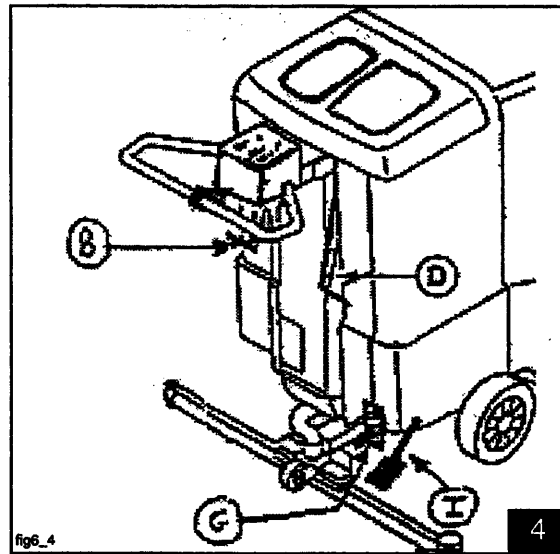

fig6_4
Before removing the brushes, switch off the machine, check the head has lifted all the way up and the brushes have stopped; then press the emergency button and disconnect the battery connector **A** (fig.6).
- if the diaphragm sack is present in the tank remove the pump **A** (§7.2.6. fig. 6) from the sack and take out the diaphragm sack **B** (§7.2.6. fig. 7) from the tank;
6.7. COMBI ACCESSORY - USE (fig. 6)